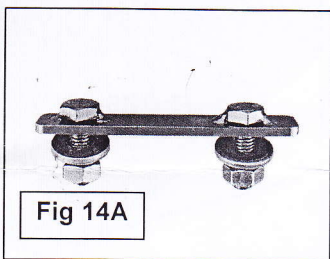
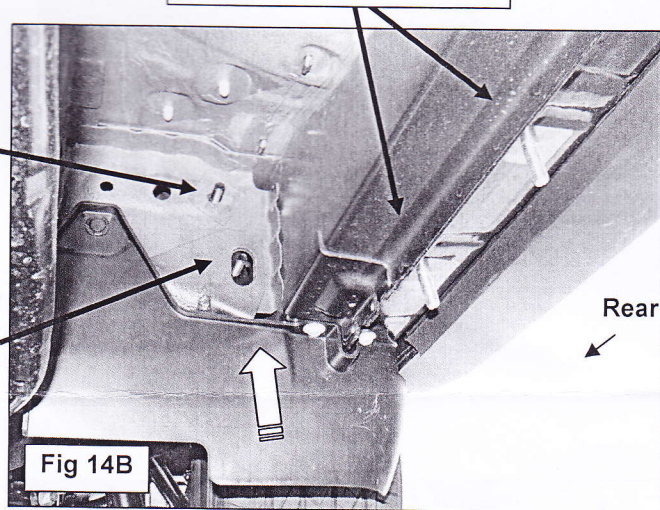
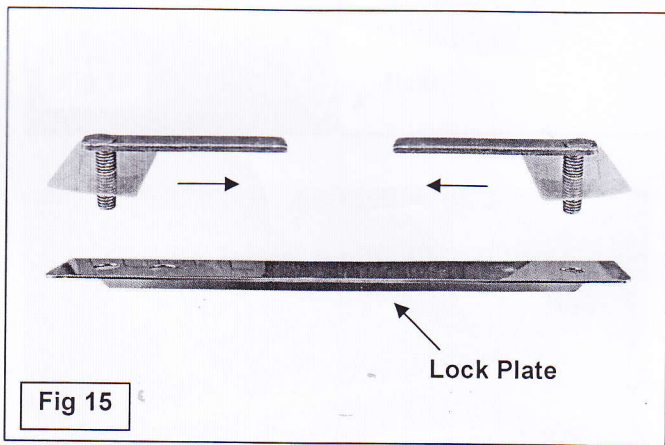
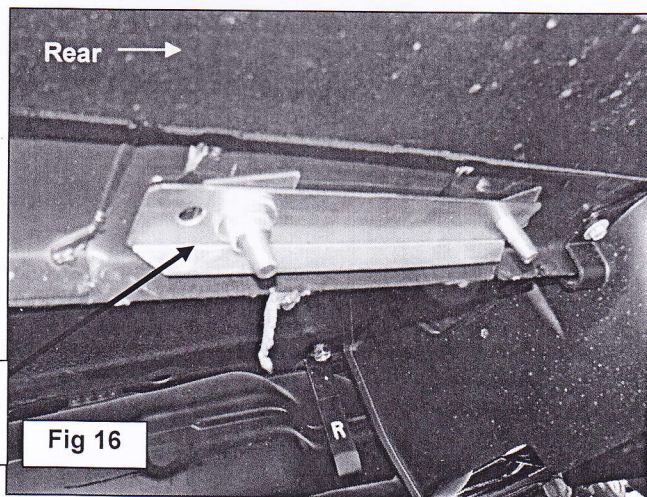

Fig 14A
Fig 14B
Fig 15
Fig 16
12. Move to the rear mounting location in front of the driver side rear tire opening. Locate the large oval and the round holes in the inner body panel in front of the rear tire, **(Figure 13)**. Select (1) 10mm Double Bolt Plate and (1) 10mm Plastic Retainer, **(Figure 14A)**. Insert the Bolt Plate into the oval hole and up and out of the smaller round hole above it. Thread the Plastic Retainer onto the Bolt Plate in the round hole only, **(Figure 14B)**.
13. Locate the last (2) round holes along the floor panel, **(Figure 14B)**. Repeat **Steps 2 – 5** to install the (2) Bolt Plates and Lock Plate, **(Figures 15 & 16)**. **NOTE:** Attach the Lock Plate to the front Bolt Plate only with (1) 10mm Flat Washer, (1) 10mm Lock Washer and (1) 10mm Hex Nut, **(Figure 16)**. Tighten the Hex Nut at this time.